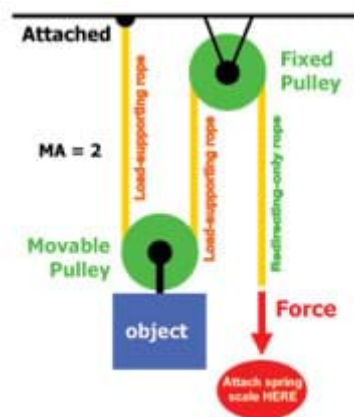

Figure 6. Pulley system.
12. Last, create a pulley system. Run the string through one pulley (the fixed pulley) and through the other (the movable pulley, which has the object attached to it), as in Figure 6.